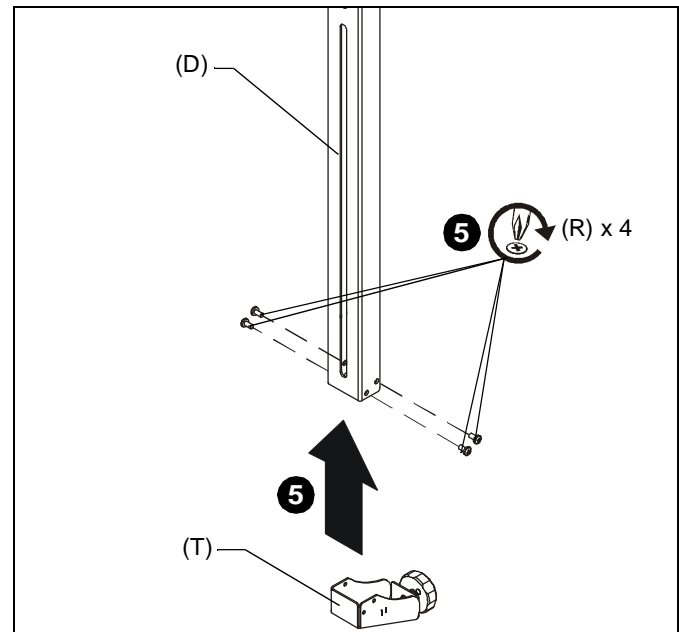

Figure 3
5. Attach lower support (T) to bottom of upright assembly (D) using four M4 x 8mm Phillips screws (R). (See Figure 3)